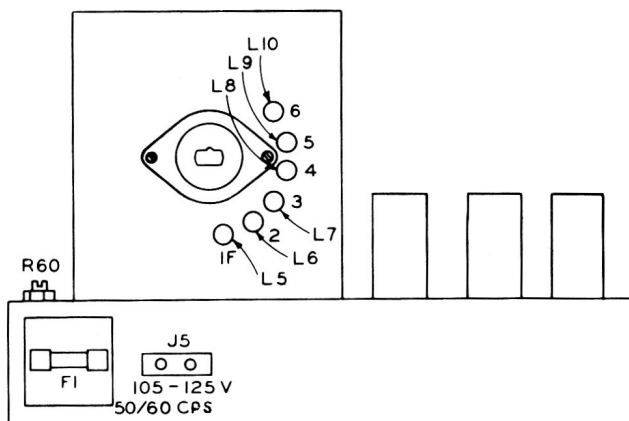
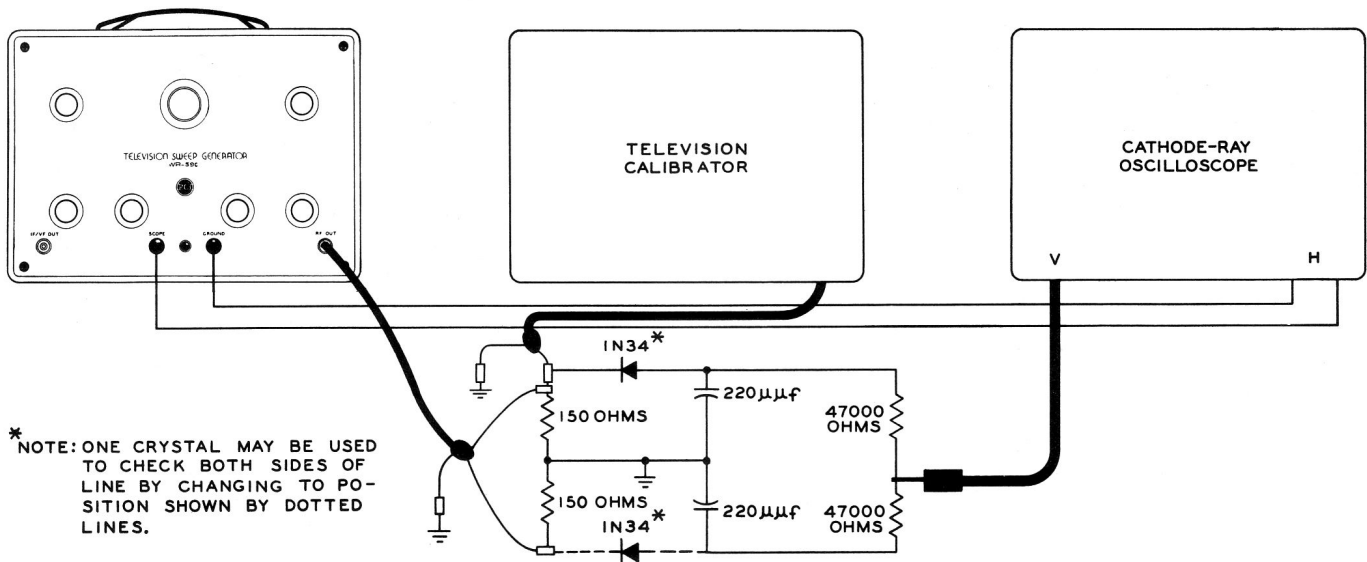

Figure 12. Rear View of WR-59C Chassis
Figure 13. Setup for RF Alignment of the WR-59C
A small 1-ampere cartridge fuse (F1, Figure 12) protects the power-supply system; it should not be short-circuited or replaced with one of higher rating. The fuse is accessible when the rear panel of the instrument is removed.
At each setting of the CHANNEL selector, the output of the WR-59C sweeps over a band of frequencies. When this output is applied to an oscilloscope through a detector circuit, as in Figure 13, the band of frequencies appears as a straight line, each frequency within the band located at successive points along the line. The lowest frequency within each band should be situated at one extreme end of the straight line, the subsequent frequencies located progressively along the line, and the highest frequency at the other end of the line.
2. Connect the rf output of the WR-59C to the input of a detector, and the output of the detector to the vertical-deflection terminals of an oscilloscope, as illustrated in Figure 13.
3. Connect the SCOPE and GROUND terminals of the WR-59C to the horizontal-input terminals of the oscilloscope (Figure 13), and set the oscilloscope for external horizontal input.
6. Connect the WR-39C Television Calibrator, or equivalent marker generator, as illustrated in Figure 13, and tune the calibrator to the center frequency of the channel to which the WR-59C is set. One of two markers should appear on the horizontal line.
1. Connect the Sweep Generator, a television calibrator, an oscilloscope and a detector circuit as illustrated in Figure 13.
7. Set the CHANNEL selector to channel 2, and tune the television calibrator to the center frequency of this channel (lowest channel frequency + 3 Mc). NOTE: The iron-core tuning slugs of coils L6, L7, L8, L9, and L10, associated with channels 2 through 6, respectively, are accessible at the rear of the oscillator compartment. (See Figure 12.) Adjustments can be made when the rear panel of the case is removed.
under alignment. (See Figure 12 for physical location of coils.)
2. Using the setup illustrated in Figure 13, adjust L5 (Figure 12) until the rf sweep oscillator sweeps from 99 to 109 Mc, approximately, with the SWEEP WIDTH control in its maximum position.